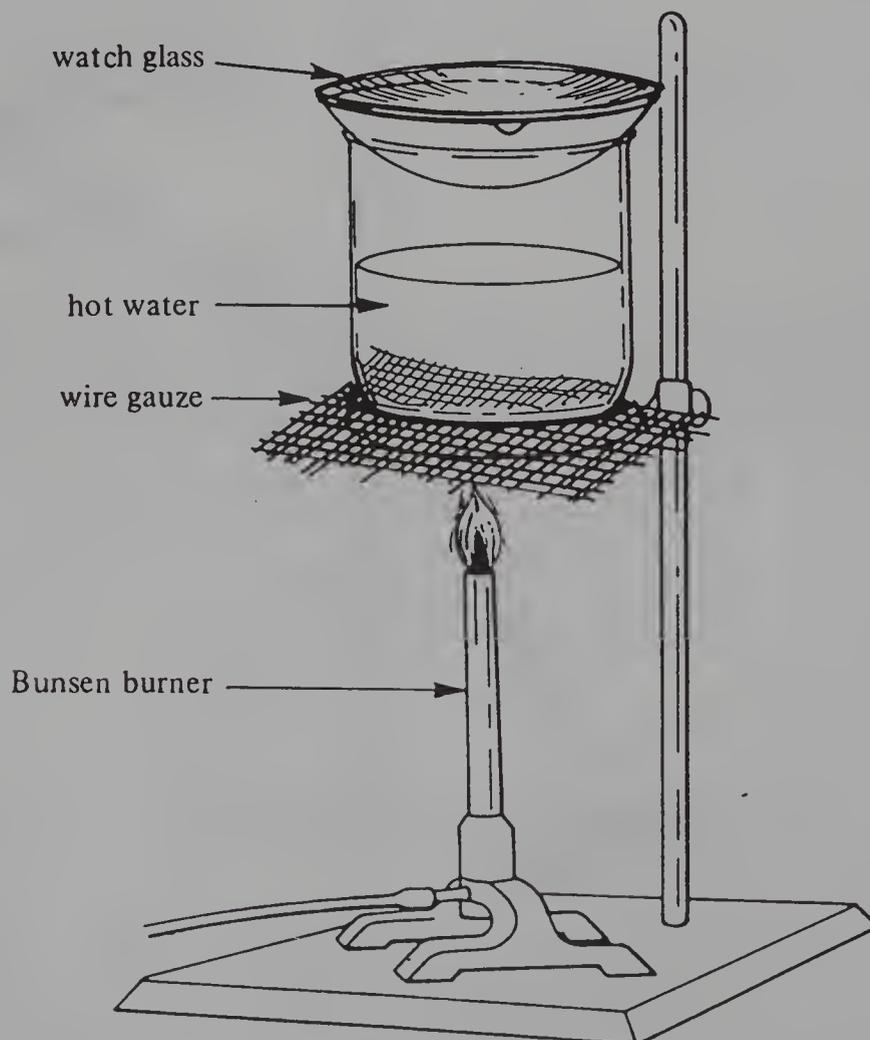

Figure 3-2. Apparatus for Heating Iodine
**Unused manganese dioxide, copper(II) carbonate:** *Dispose* in a waste bottle labeled *heavy metals—solids*.
- Support a 150 mL beaker with wire gauze on a ring stand. Boil 100 mL of distilled water in the beaker. Remove the Bunsen burner. Place 0.5 g of iodine in an evaporating dish and cover with a watch glass, convex side down. Place a small amount of ice in the watch dish. The apparatus is shown in Figure 3-2. Observe the process and the fine crystals on the bottom of the watch glass and in the evaporating dish.